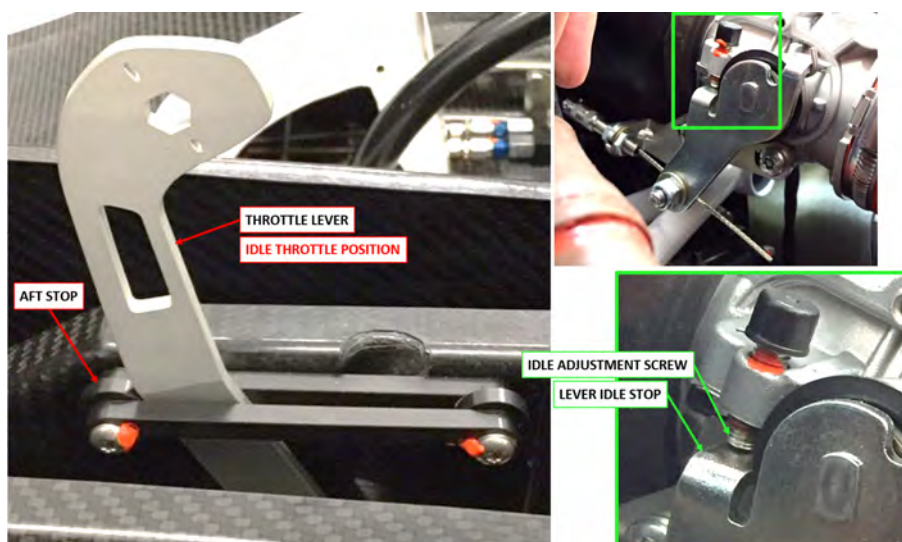

FIGURE 16-22
- In cockpit, retract throttle handle to contact AFT stop (idle position). At engine, ensure lever idle stop contacts idle adjustment screw at the same time or just before the throttle handle contacts the aft stop. (See Figure 16-22.)